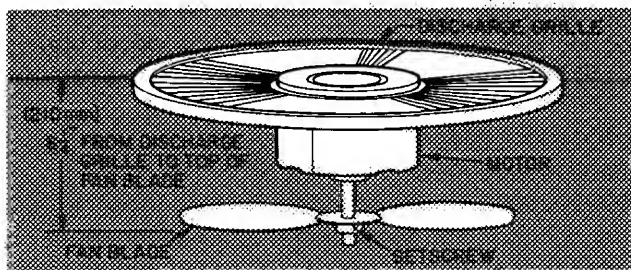

Fig. 26 — Condenser Fan Position
7. Reverse procedure for reassembly. Seal with Permagem sealer around hub to prevent entry of water between hub and shaft. Make sure fan is positioned correctly as shown in Fig. 26.